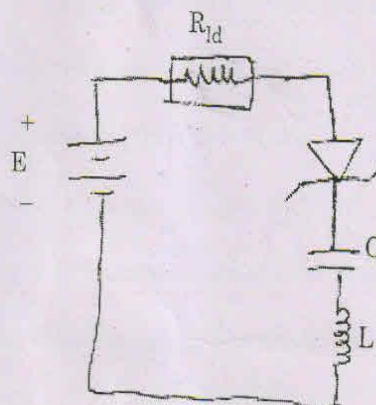

Fig.16.b
- (b) The series resonance turn-off circuit of Fig.16.b has the following data: $E = 160\ \text{V}$, $L = 8\ \text{mH}$, resistance of inductor coil $r_L = 0.2\ \Omega$, $R_{fd} = 0.6\ \Omega$ and $C = 65\ \mu\text{F}$.